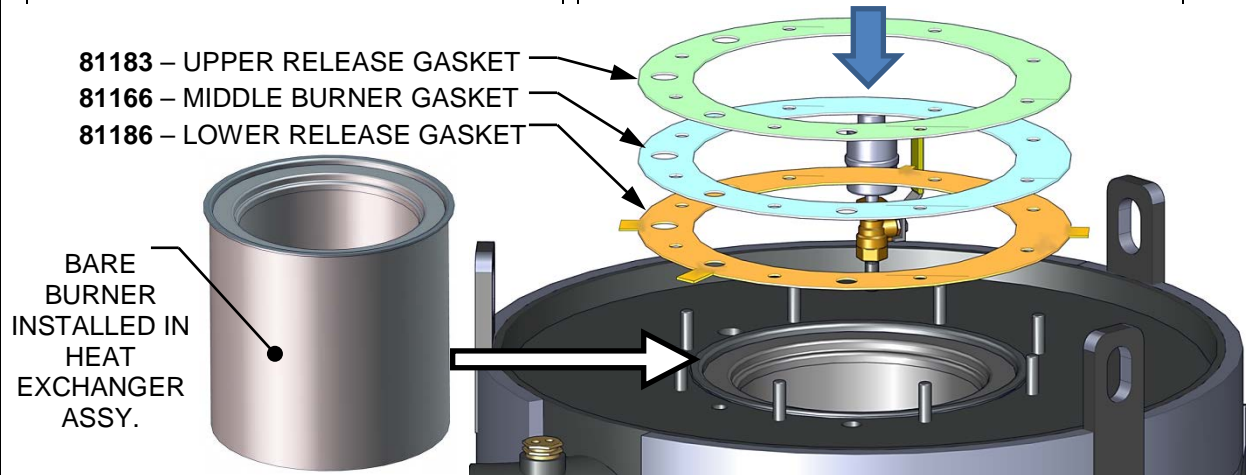

Figure 5-6: Bare Burner and Replacement Gaskets Location
14. Remove and replace the burner gasket(s) (see Figure 5-6, below).
ALL THREE gaskets provided for maintenance MUST be installed during this procedure, as shown in Figure 5-6, even if there is only one existing gasket being replaced. Note that the LOWER RELEASE GASKET has tabs, which the others do not.